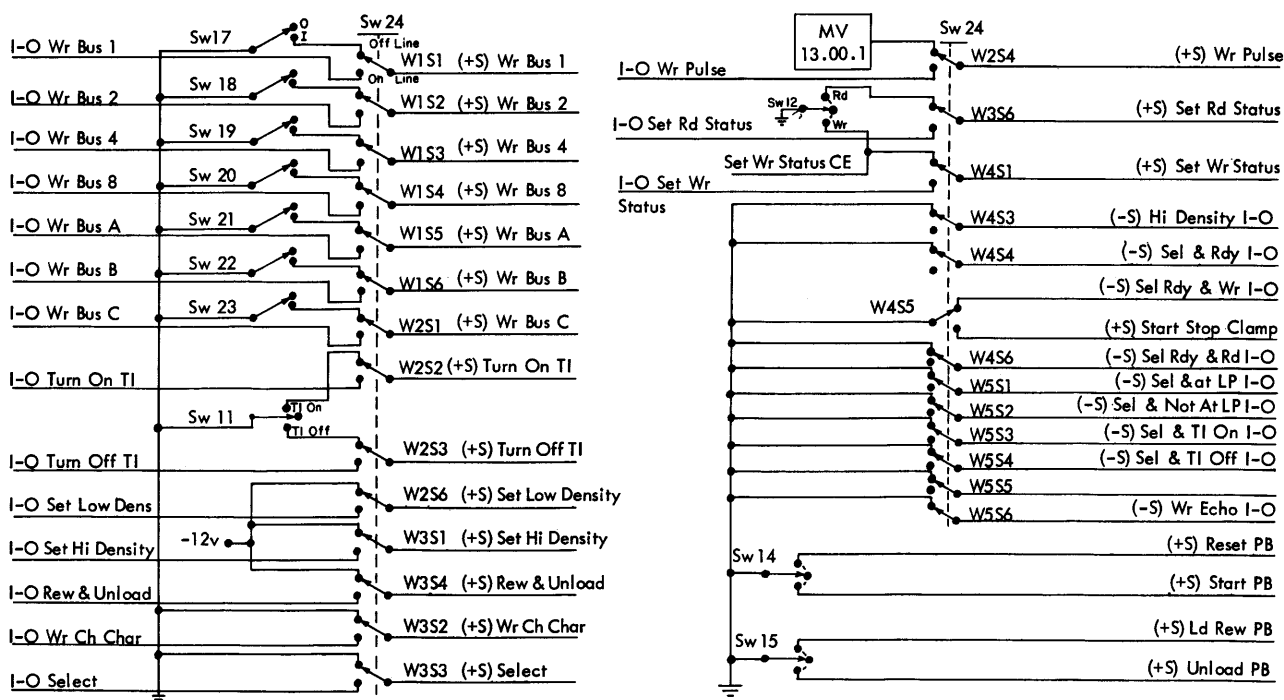

Figure 5. CE Panel Switches
Rear CE Panel (Figures 5, 6, and 7)
or customer interruption. Its effect on the tape unit is to: (1) Block all necessary input signals at the I-O cable, (2) hold all I-O output levels at +S (ground) to prevent introducing signals onto the main I-O bus, and (3) activate the keys and switches available for CE use (see Figure 5).